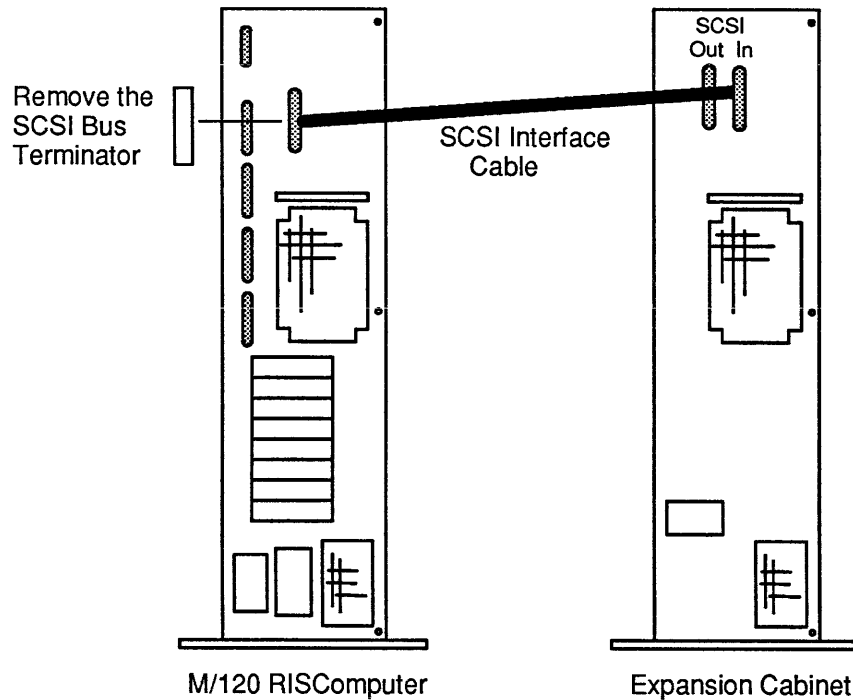

Figure C.11. Installing the SCSI Interface Cable
13. Remove the SCSI Bus Terminator from the SCSI connector on the rear panel of the computer. Keep the terminator in a safe place. If in the future you want to disconnect the Expansion Cabinet, then the SCSI Bus Terminator must be reinstalled on the SCSI connector. Refer to Figure C.11.
14. Connect the SCSI interface cable to the SCSI connector on the rear panel of the computer and to the SCSI IN connector on the rear panel of the Expansion Cabinet and lock the bail clips. Refer to Figure C.11.